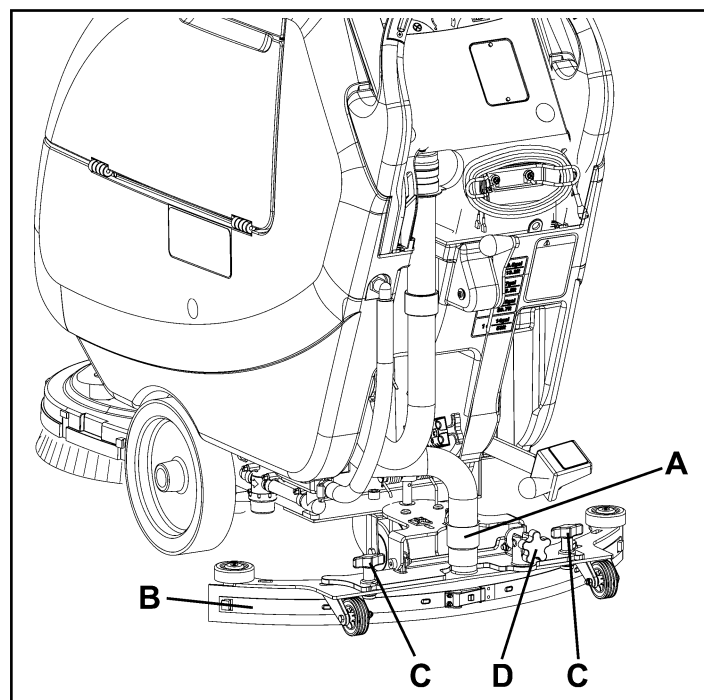
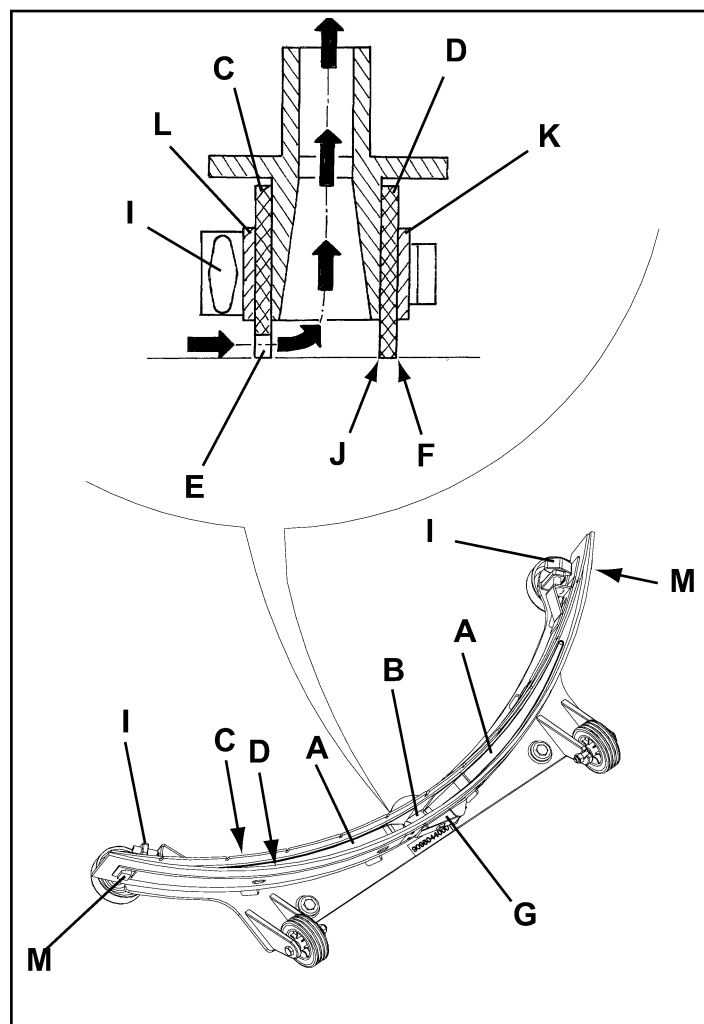

Figure 27
Figure 28
2. Check that the edges (E, Fig. 28) of the front blade (C) and the edges (F) of the rear blade (D) lay down on the same level, along their length; if necessary adjust their height according to the following procedure:
- Remove the tie rod (G), disengage the fasteners (M) and adjust the rear blade (D), then engage the fasteners (M) and install the tie rod (G).
- Loosen the knobs (I) and adjust the front blade (C), then tighten the knobs.
3. Check the front blade (C) and rear blade (D) for wear, cuts and tears; if necessary replace them according to the following procedure. Check that the front corner (J) of the rear blade (D) is not worn; if necessary, overturn the blade to replace the worn corner with an integral one. If the other corners are worn too, replace the blade according to the following procedure:
- Remove the tie rod (G), disengage the fasteners (M) and remove the retaining strip (K), then replace/overturn the rear blade (D). Assemble the blade in the reverse order of disassembly.
- Unscrew the knobs (I) and remove the retaining strip (L), then replace the front blade (C). Assemble the blade in the reverse order of disassembly.
4. Connect the vacuum hose (A, Fig. 27) to the squeegee.
5. Install the squeegee (B) and screw down the knobs (C).
6. If necessary, adjust the squeegee balance adjusting knob (D).